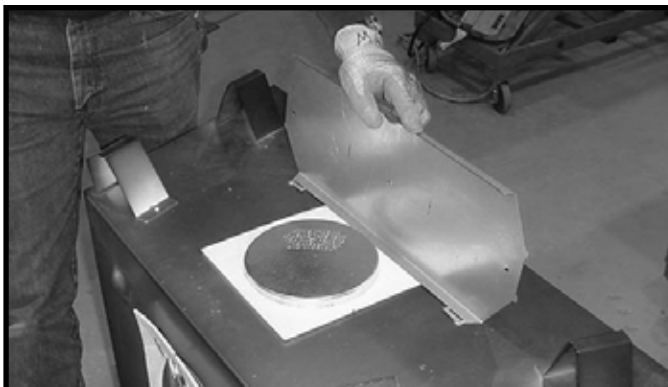

**Figure 6.4** Elbow Heat Shield Installed
- If the combustible materials are not in place at the time of install the elbow heat shield may be screwed to the exhaust pipe. See Figure 6.4. Cut the tabs as shown and bend down. Secure the heat shield to the pipe maintaining 3" to 4" between the pipe and shield.
- 90° elbows may be installed and rotated to any point around the preceding component's vertical axis. If an elbow does not end up in a locked position with the preceding component, attach with a minimum of two (2) sheet metal screws.